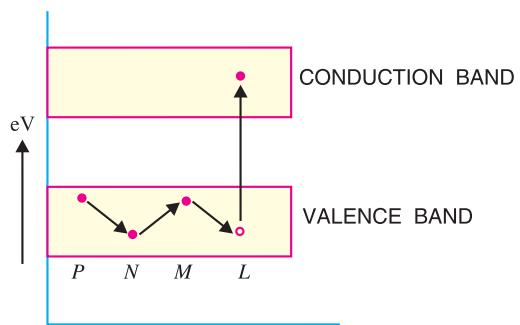

Fig. 5.9
**Energy band description.** The hole current can be beautifully explained in terms of energy bands. Suppose due to thermal energy, an electron leaves the valence band to enter into the conduction band as shown in Fig. 5.9.